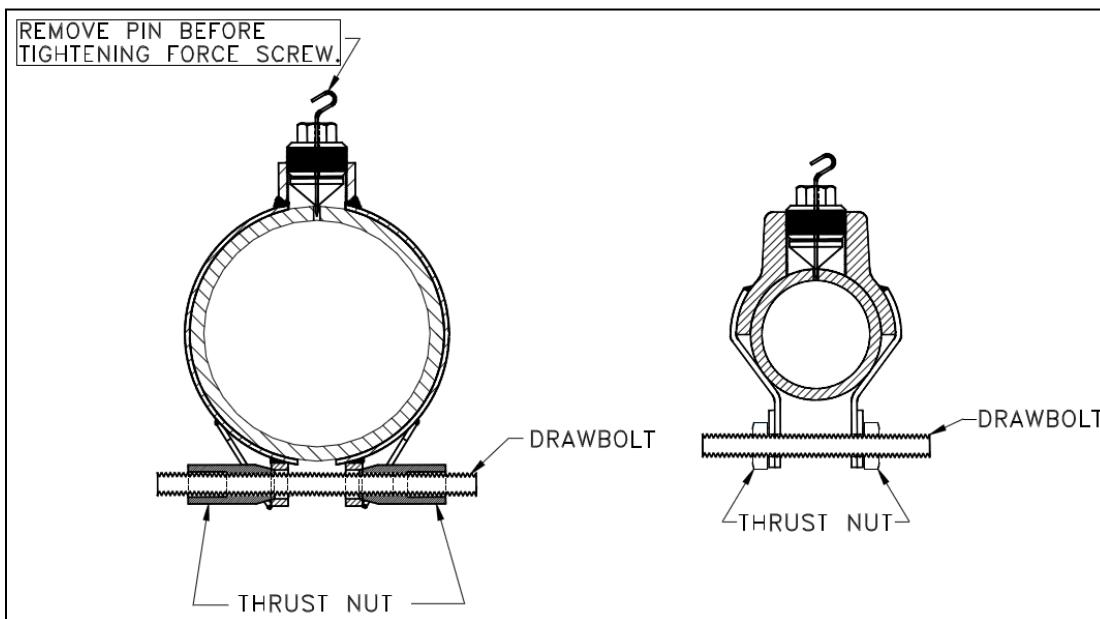

Figure 5
- Hold the PLIDCO Smith+Clamp firmly in position until the drawbolt and thrust nuts are tightened to the torque value indicated in Chart A. Ensure there is full nut engagement by having equal lengths of the drawbolt protruding from the thrust nuts on either side as shown in Figure 5.
8. Tighten the force screw to a torque value between 70 to 80 ft-lbs (or 95 to 109 Nm). Completed assembly should look as shown in Figure 5, less the pilot pin.